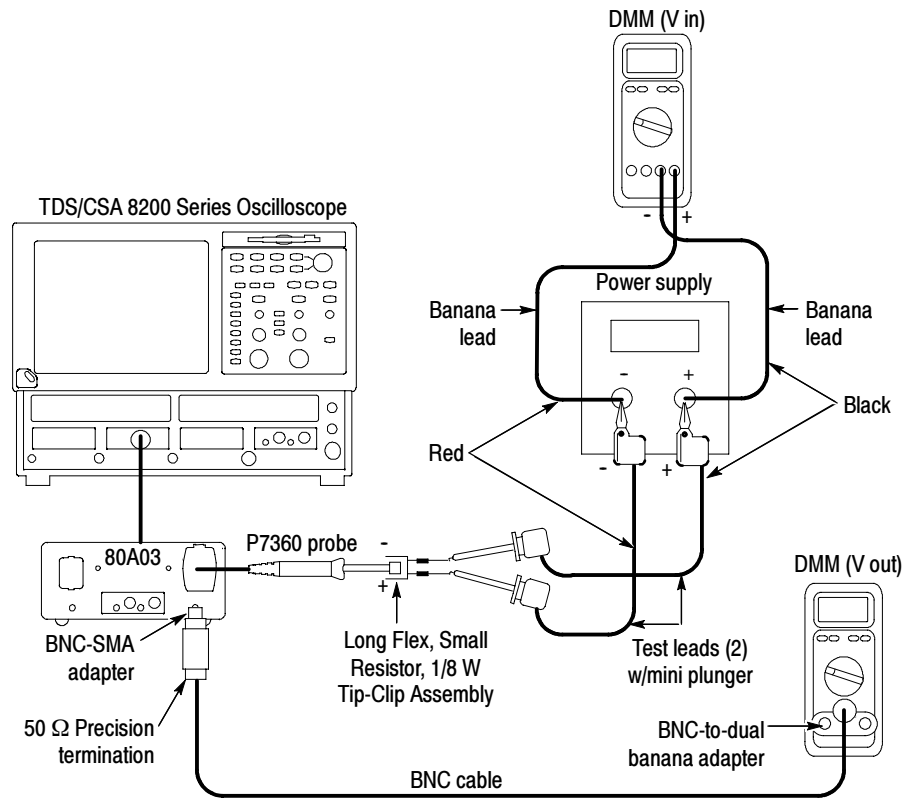

Figure 14: Reverse the power supply polarity on the probe inputs
6. Reverse the polarity of the voltage applied to the probe inputs by swapping both sets of banana leads at the power supply, as shown in Figure 14.